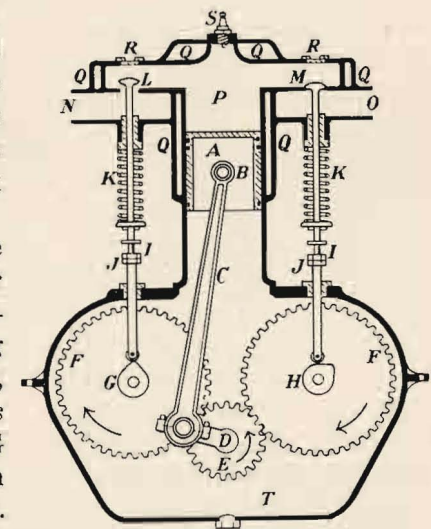

Fig. 2.—Details of a single cylinder four-stroke cycle engine.
**4. Further details of the engine.** In Fig. 2 more of the parts of a simple one cylinder engine are shown. A is the piston, hollowed out for lightness and supplied with *piston rings* set in grooves machined in its cylindrical surface, to ensure that no gas leaks past. B is the *wrist-pin* at the upper end of the *connecting-rod* C, the lower end of which is connected to the crank on the *crank-shaft* D.